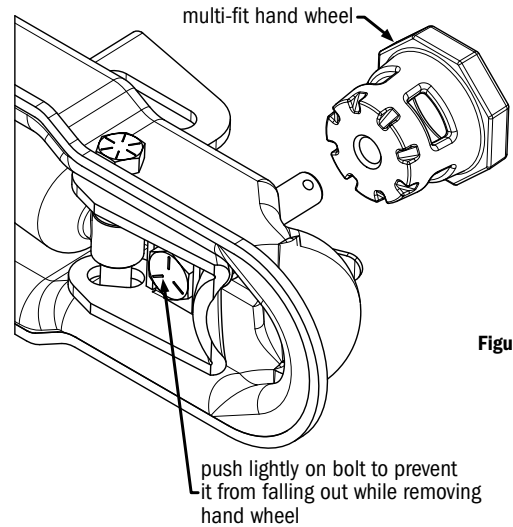
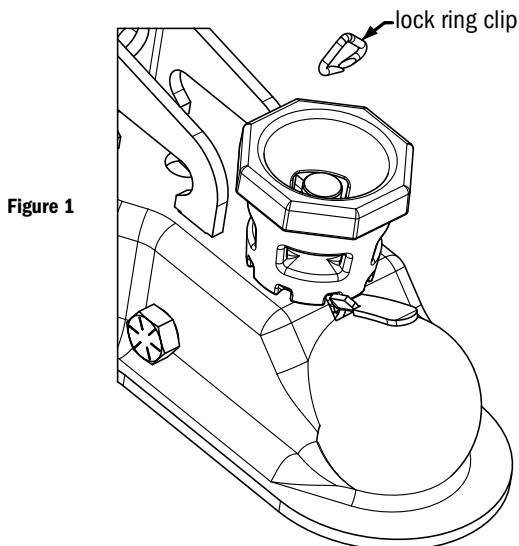

Figure 2
Figure 1
2. Using needle nose pliers remove the lock ring clip from the adjustable handle bolt and discard as shown in Figure 1. Next, while holding the ball latch and bolt from underneath the coupler, remove the multi-fit handle (hand wheel) by turning counter clockwise and discard. (see Figure 2)